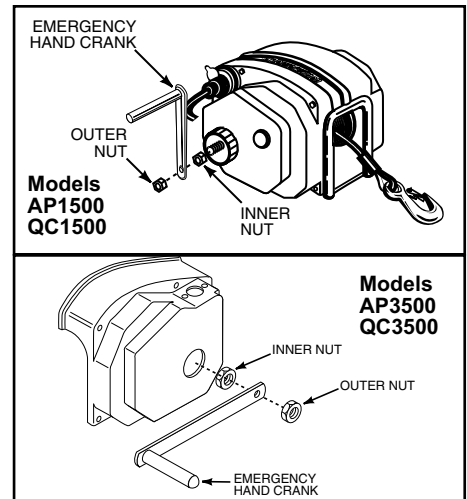

Figure 10 - Emergency Hand Crank
- Turn the clutch control knob clockwise until tight. **DO NOT** overtighten the knob or clutch damage will occur (See Figure 10).
- Remove the outer nut shown in Figure 10 and place the emergency hand crank on the shaft.
- Remove the outer nut shown in Figure 10 and remove the emergency hand crank off the shaft.